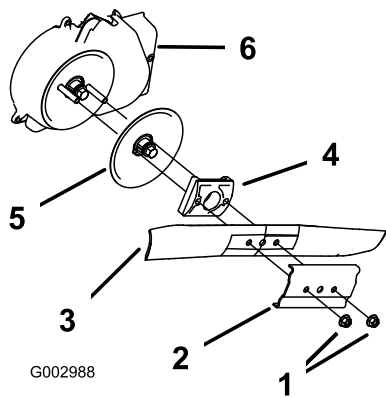

Figure 50
3. Remove the 2 blade nuts and the stiffener (Figure 50).
4. Remove the blade (Figure 50).
5. Remove the blade driver and disk (Figure 50).
6. Remove the blade brake clutch shield (Figure 50).
8. Install the blade brake clutch shield (Figure 50).
9. Install the blade driver (Figure 50).
10. Install the blade (Figure 50).
11. Install the stiffener (Figure 50).